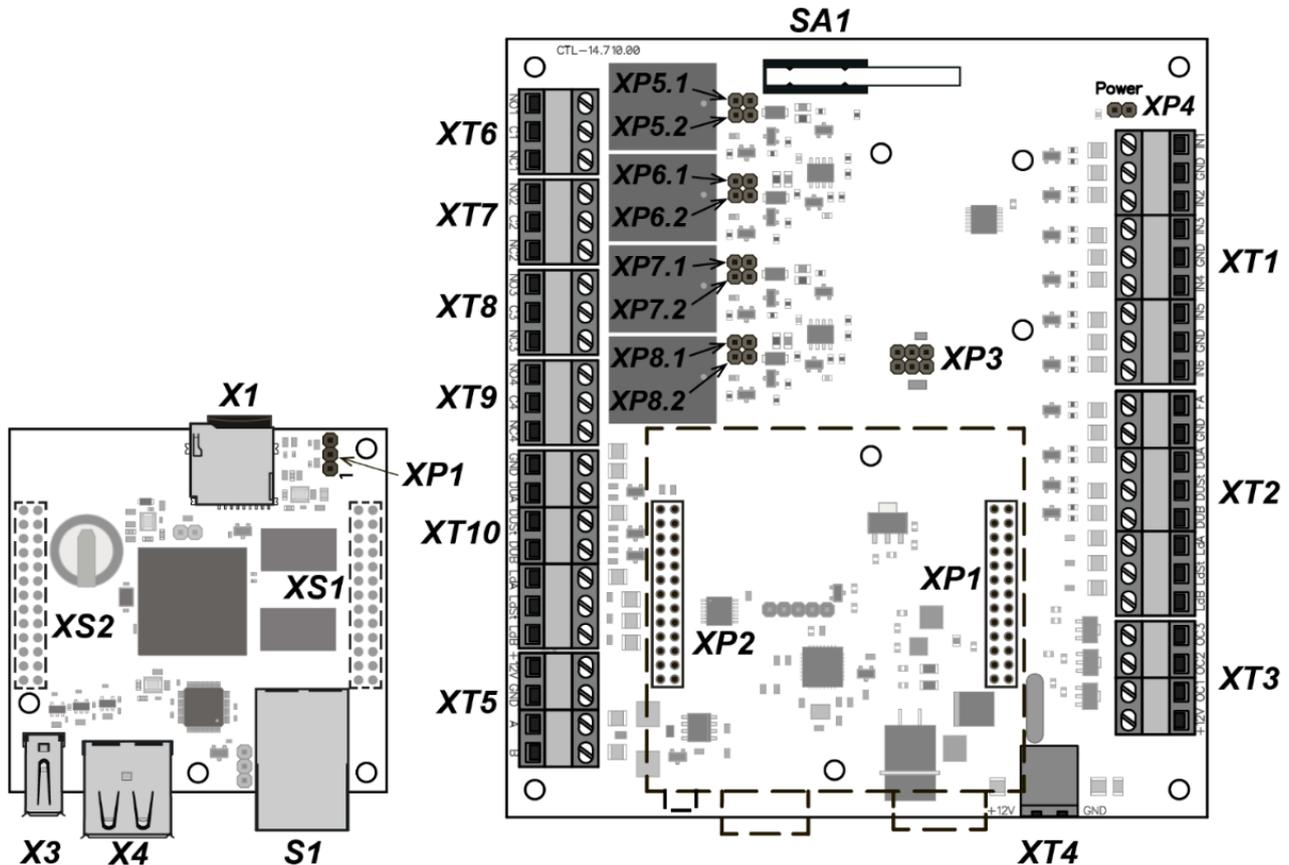

Figure 1. The upper and lower controller boards
The controller features two boards – upper board (processor module) and lower board (process execution module). The **XS1 – XS2** terminal blocks of the upper board are connected to the **XP1 – XP2** connectors of the lower board. The controller boards are shown in Fig. 1. The terminal blocks application is given in the Table 1.
The controller provides status control of four inputs controlled by “dry contact” or “open collector” (OC): *IN1* – *IN6*. Connection to the outputs is performed via *XT1* terminal block of the controller lower board (Fig. 1 and 3).